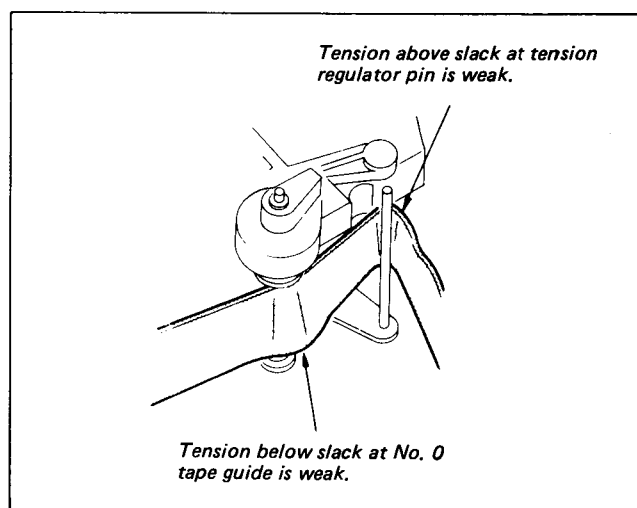

Fig. 3-7. Replacement and Adjustment (3) of Tension Regulator Arm Plate Assembly
- (7) After adjustment, confirm that there is not a large bending of the tape at each of the tension regulator guide pin section and the No. 0 guide section shown in Fig. 3-7. If bending is found, repeat Step 3.